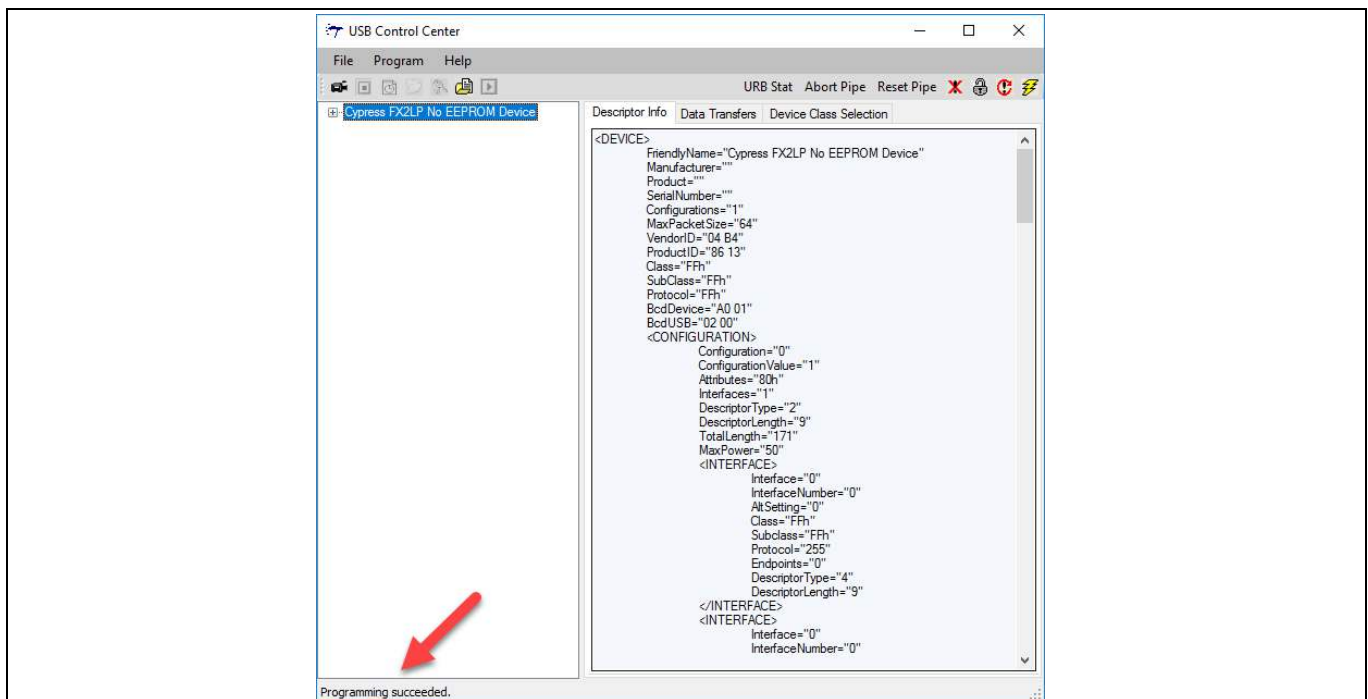

Figure 33 Programming Succeeded
- Successful programming is indicated at the bottom left corner of the tool as **“Programming Succeeded”** (Figure 33).